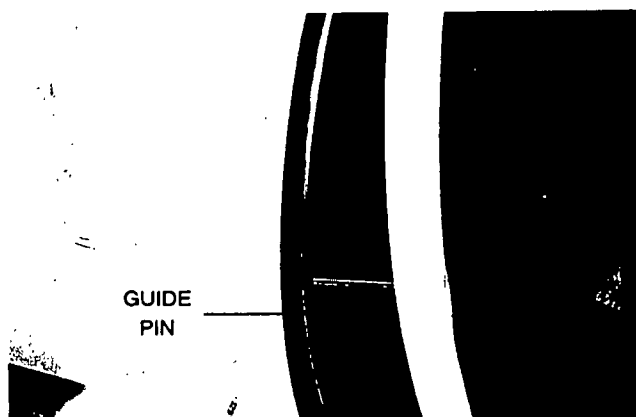

Figure 1. Front End Bracket Installation
1. See Figure 1. Install two guide pins (threaded rod may be used) into the generator side of the end bracket mounting holes. Align the guide pins with the holes in the generator frame and slide the bracket onto the frame. Install bracket mounting capscrews.